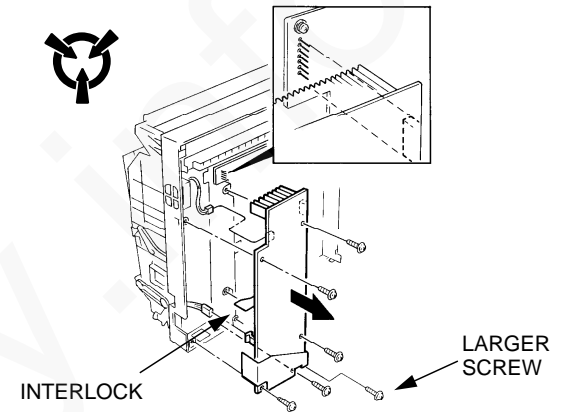

Figure 3. LV power supply
10. Remove the six screws retaining the LV power supply to the chassis (figure 3).